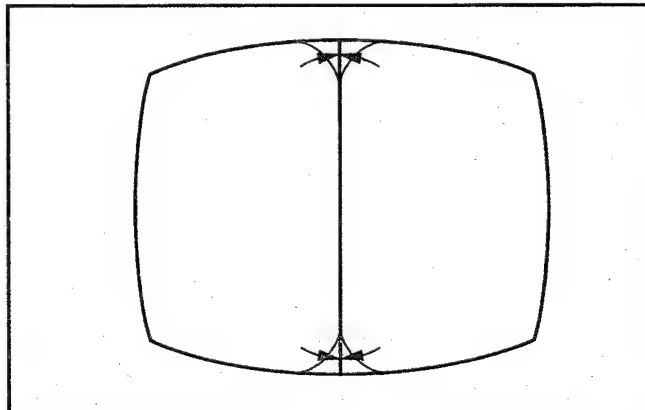

Fig. E13
2. Hold Deflection Yoke and wiggle it up and down to correct Crosshatch Pattern position (Refer to Fig. E13).